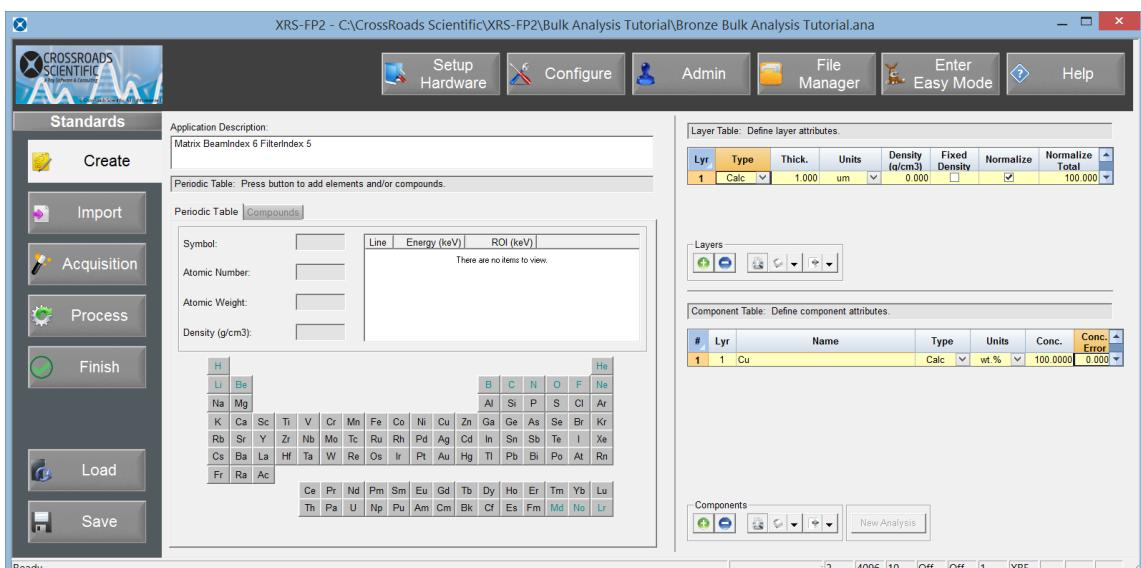

Figure 20. XRS-FP2 Standards Workflow – Create. Enter Cu for the pure bulk Cu standard and set the concentration to 100 (wt%).
- Select the **Create** button. Now enter the standard value (concentration) for the pure bulk Cu standard – 100 wt% Cu. Enter this value in the “Conc” column of the standard Component Table. See Figure 20 below.